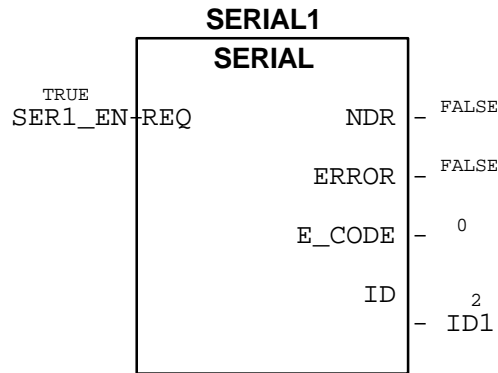

FIGURE A-1 SERIAL Block Configuration Showing On-line Data for Example 1
In this application example, the Modbus master (ACM or CCM) reads 30 floating point (FP) values from slave address 5, starting at register 40101. The slave device handles FP values similar to a Modicon PLC; therefore, each value requires two consecutive registers for reading (and writing). See Figures A-1 through A-4 for configuration examples.